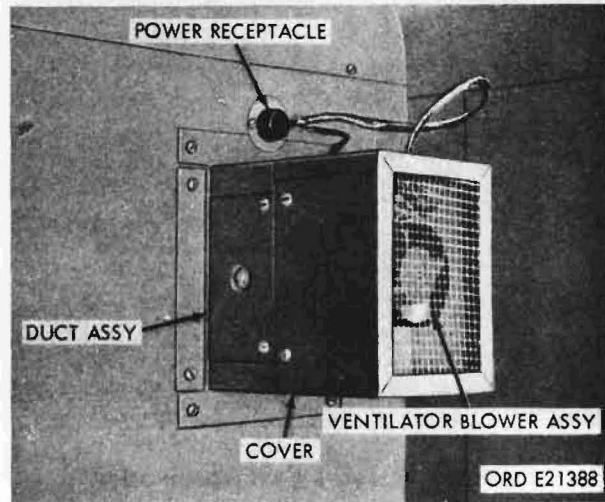

Figure 142. Body ventilator blower assembly
e. Ventilator Blower. Power for operation of the ventilator blower (fig. 142) is controlled by circuit breaker No. 2 in the multibreaker assembly (fig. 90).